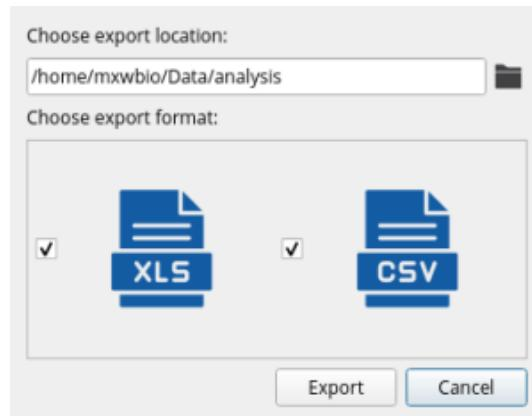

Figure 8.10. Choosing Joint Export Settings
4. Set the data export path and select the data export format (Figure 8.10). Just as for single-file export, data can be exported in Excel and/or CSV formats. For multi-file export, only summary metrics (well level) can be saved, so the export content selection does not appear.
The Metrics Tables contain the metrics computed in the analyses: Activity Analysis (Table 9.2) and Network Analysis (Table 9.4). When all metrics are exported from a single Activity Analysis trial, three tables are saved: Well Level, Electrode Level, and Spike Level. For a single Network Analysis trial, two tables are saved: Well Level and Burst Level. For joint export of several analyses (Figure 8.10), only the Well Level tables are saved. Besides the metrics values (light grey), each table contains Identifier information (light blue) and Wellplate Editor information (dark grey), which can be used for data selection and filtering.